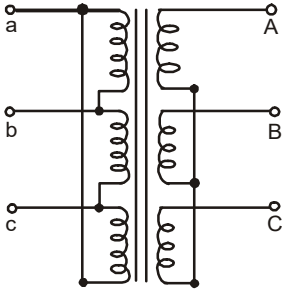
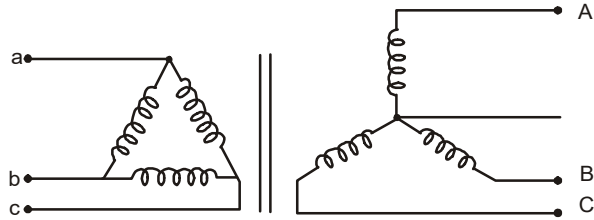

Fig. 3.30: Windings connected in delta-star
Fig. 3.31: Δ-Y connection
- (iii) **Delta-Star connected 3-phase transformers.** In these connections, primary is connected in delta and secondary in star as shown in fig.3.30. and fig. 3.31. The primary input voltage then must be equal the primary voltage of the individual transformer winding and the exciting current drawn by the bank